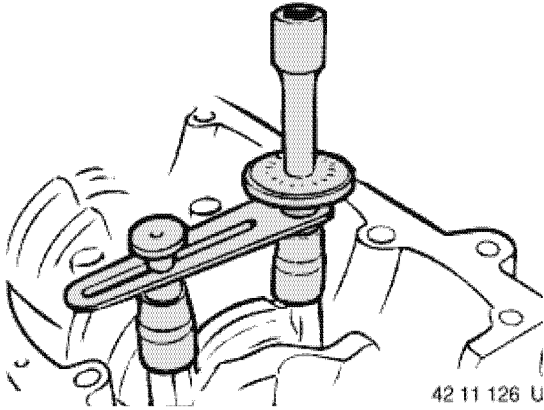

Figure 5-120
10. Torque-turn tighten all bolts to specification using torsion angle tool (**Figure 5-120**). Turn crankshaft by hand to ensure there is no binding.